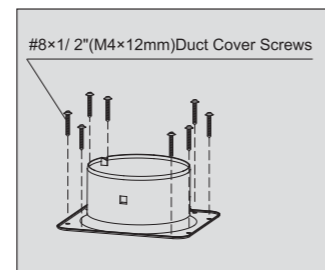

Figure 3
- Refer to Fig 3, use eight $\#8 \times \frac{1}{2}$ " (M4 \times 12mm) Duct Cover Screws to fix the exhaust cover and upper seal mat on the top of complete appliance.